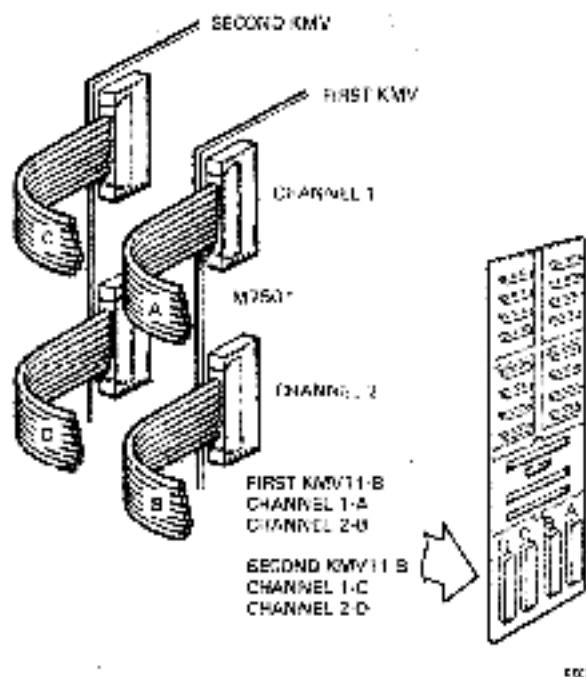

Figure I-3 KMV Cable Connections
6. Fit new PCB and reconnect the cables (See Figure I-3)